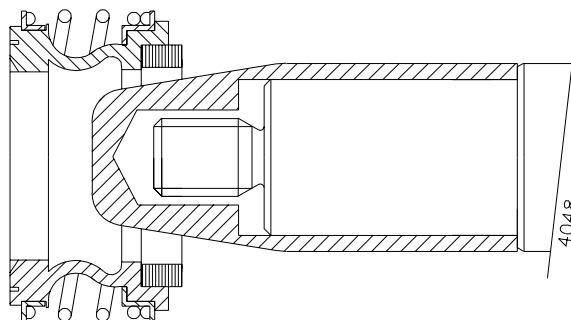

figure 30 Special conical mounting bush.
- *Special tools: Assembly of the mechanical seal is easier with a special conical mounting bush. The mounting bush covers the sharp edges on the shaft, so the risk of damaging the seal during assembly is reduced. See figure 30.*
➤ *Special tools: the seal groups M1 and ML1 are easily mounted by using a special conical mounting bush. The mounting bush covers the sharp edges on the shaft, which means that the risk of damaging the seal during assembly is reduced. See also figure 30.*